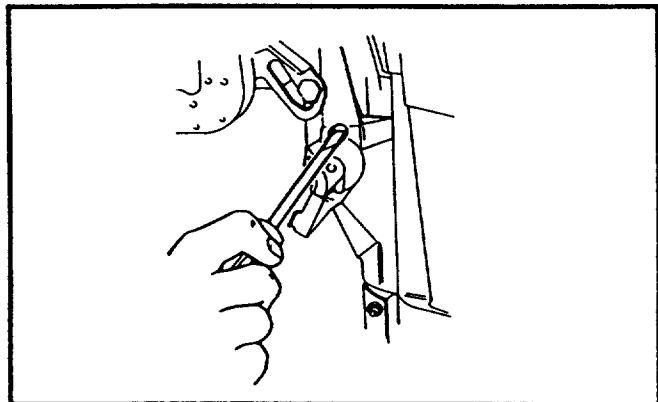

FIGURE 10
- Adjust screw for steering friction desired. (Figure 10)